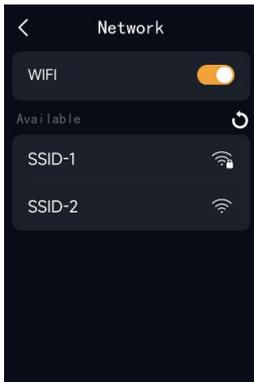

Figure 4-3-1
- 1) Go to system settings, select network settings, and turn on wifi. The device will automatically search for nearby hotspots (Figure 4-3-1).